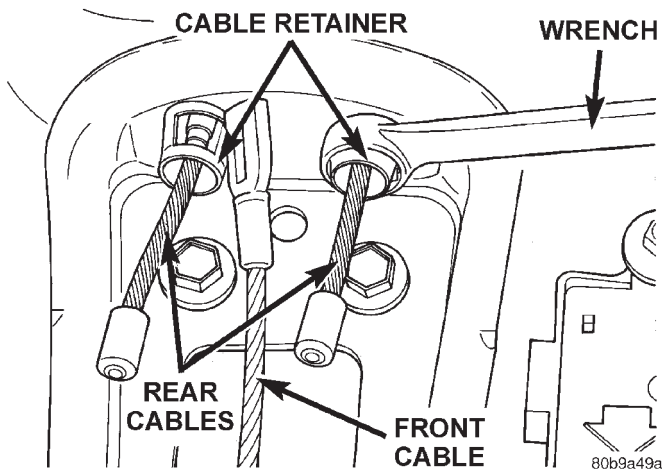

Fig. 54 Cable Retainers
- (5) Disengage rear cables ends from the equalizer.
- (6) Compress the cable retainers with a 13 mm wrench (Fig. 54) and remove the cable from equalizer bracket.
- (7) Raise and support the vehicle.